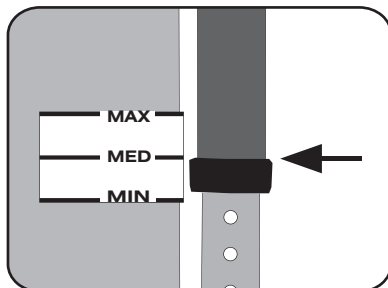

Fig. 2: Downhaul until the calibration mark lines up with the bottom of the mast.
- 6) Depending on your mast, you may need to refine the gauge position based on how the sail feels. Refer to Chart 2 for fine tuning tips. Then, once you have found your medium wind sweet spot, move the gauge so the MED line is even with the bottom of your mast, Fig 2.